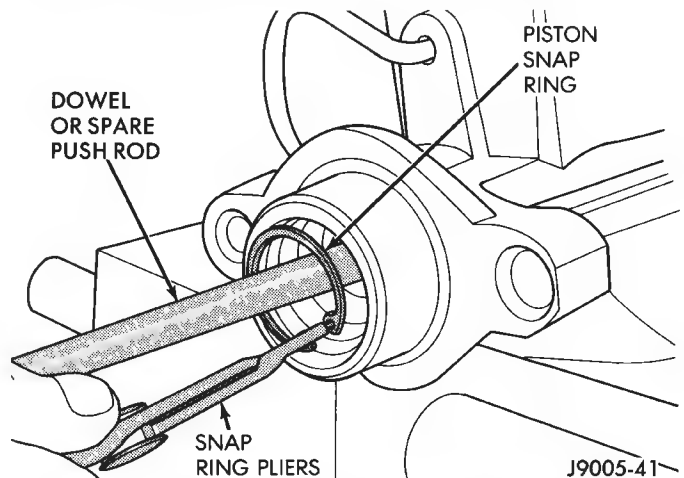

Fig. 4 Removing/Installing Piston Snap Ring
(3) Remove piston retaining snap ring. Press and hold primary piston inward with wood dowel or similar tool. Then remove snap ring (Fig. 4).
(4) Push primary piston inward and install snap ring (Fig. 4).